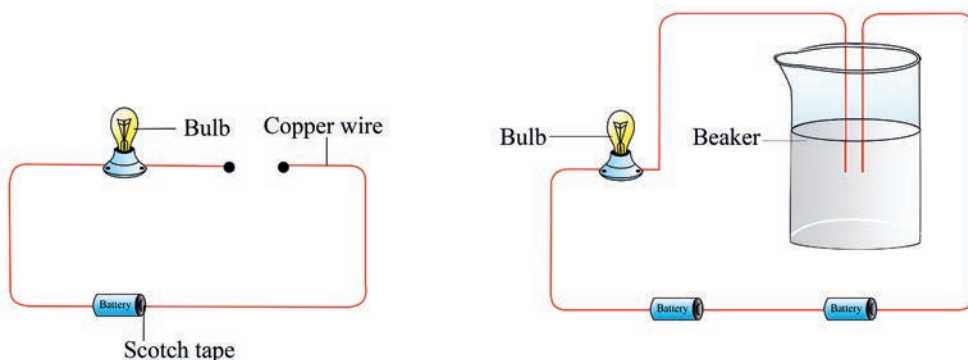

Figure 2. 2 (a) Electrical conductivity apparatus for solid materials. (b) Electrical conductivity apparatus for liquids and solutions.
- Polish the strip of copper and connect the two ends of the copper wire as shown in **Figure 2. 2a**. Do the same thing for iron nail and magnesium. Record your observations.
3. Clean the two ends of the copper wire in **Figure 2. 2b** with distilled water and insert them into a beaker containing 50 mL of 1M NaCl solution. Repeat the same thing for the 1M H_2SO_4 , 1 M CH_3COOH and 1M sugar solutions. Record your observation. Record your observation.